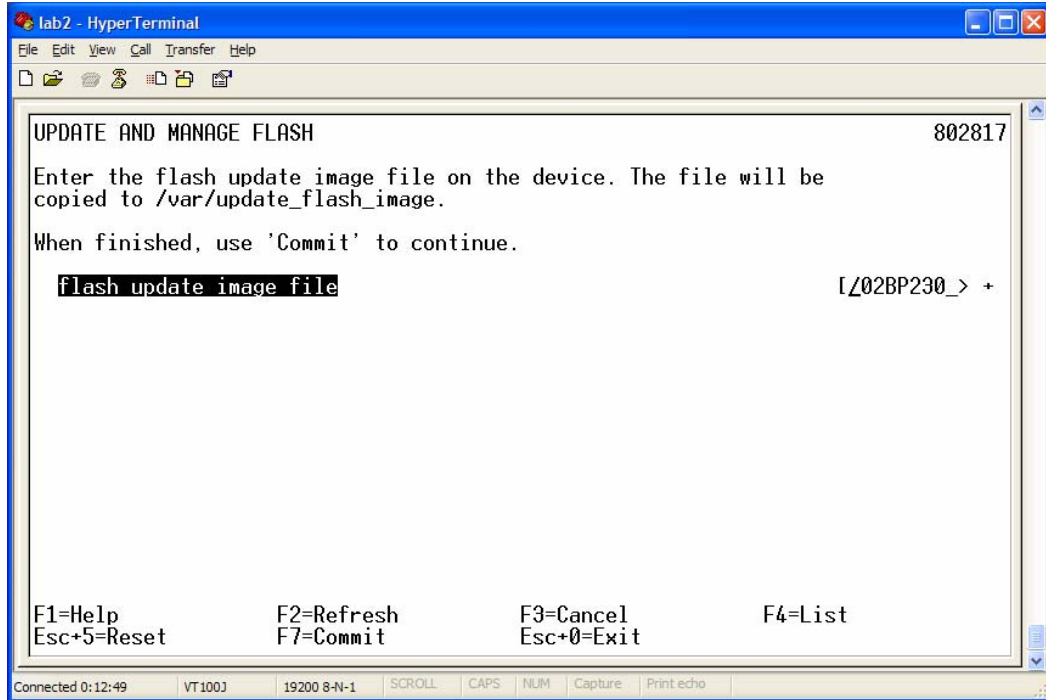

Figure 21. Selecting Flash update image file
13. Move the cursor to highlight **Flash update image file**. Then, press the **F4** key (see Figure 21).